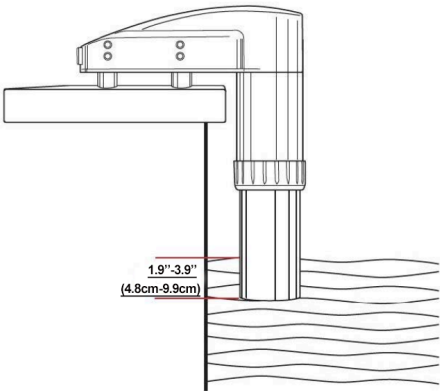

Figure 5
STEP 6: Adjust and maintain pool water level. This step is imperative in order for the pool alarm sensor to perform properly. The alarm sensor throat should be no more shallow or deep than 1.9" to 3.9" in the water at all times. Never block or fill air hole located on the back of alarm sensor throat. See **Figures 4.1-4.4** for improper water level and **Figure 5** for proper water level.